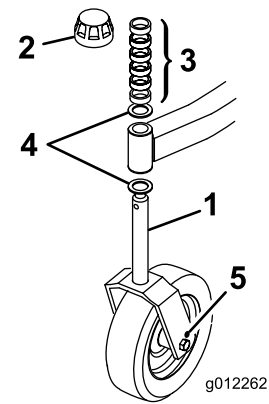
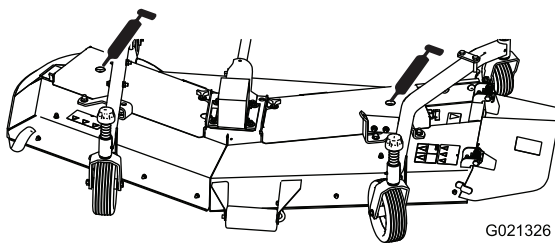

Figure 14
Figure 18
Note: A more optimum cutting appearance of the turf can be achieved in the lower heights-of-cut by lowering the rear of the cutting unit. Accomplish this by relocating the rear castor wheel axles in the upper hole of the caster forks (Figure 14). Place the axles into the lower castor fork holes for higher height-of-cut settings where optimum cutting appearance is not required.
2. Remove the tensioning cap from the spindle shaft. Slide the spacers onto the castor spindle to get the desired height-of-cut (Fig. 18 and 19). Then slide the washer (Figure 14) onto the spindle.
3. Push the castor spindle through the front castor arm, install the other thrust washer and remaining spacers onto the spindle, and install the tensioning cap to secure the assembly (Figure 14).
- Blade spindle bearings -2 (Figure 18)